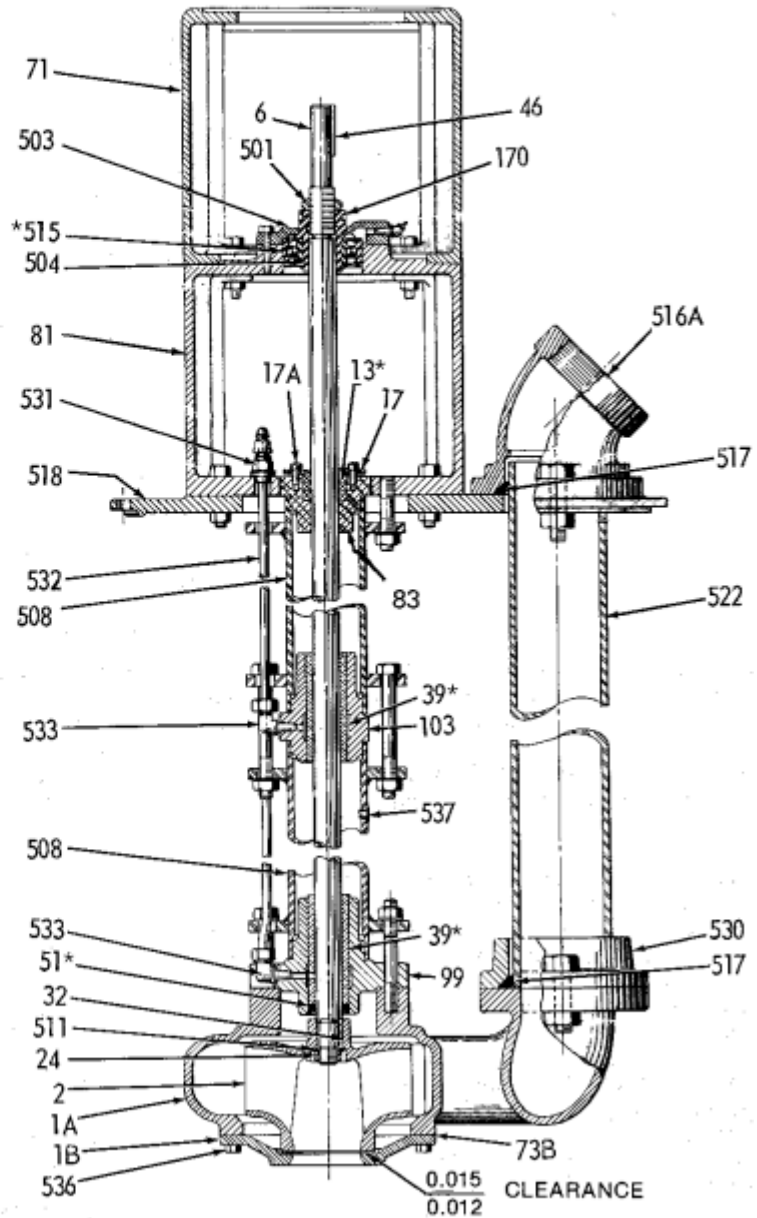
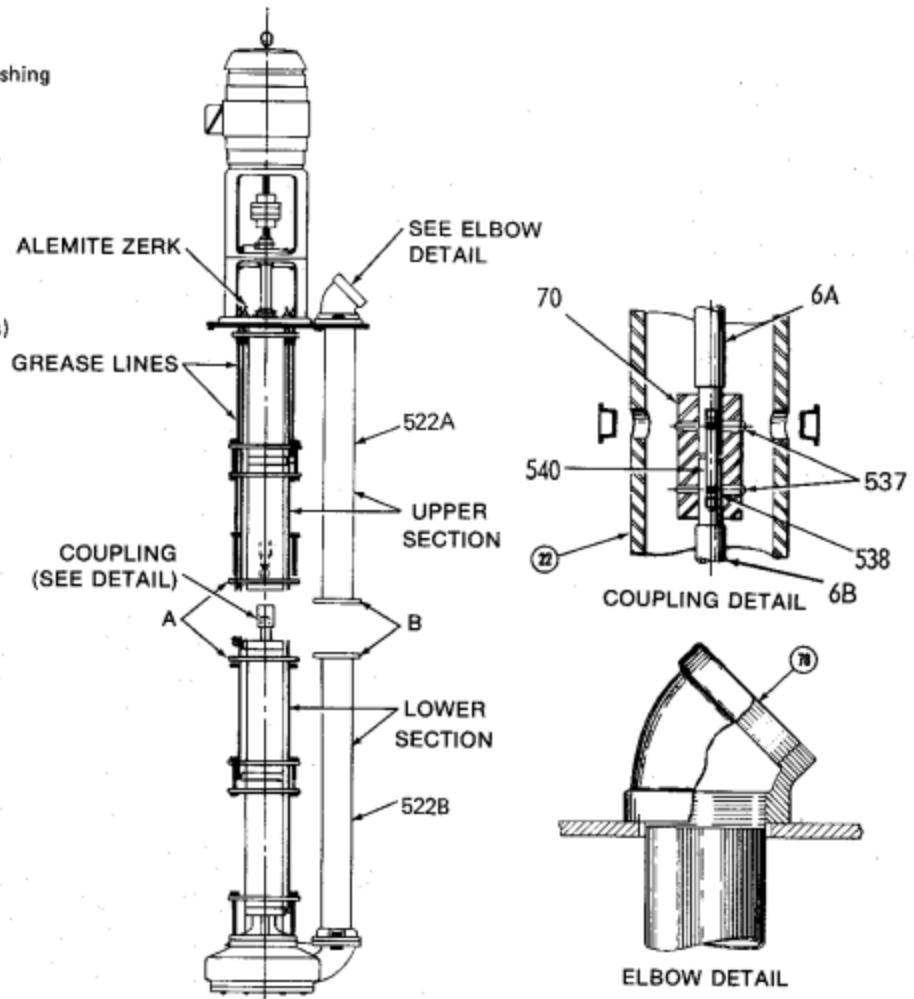
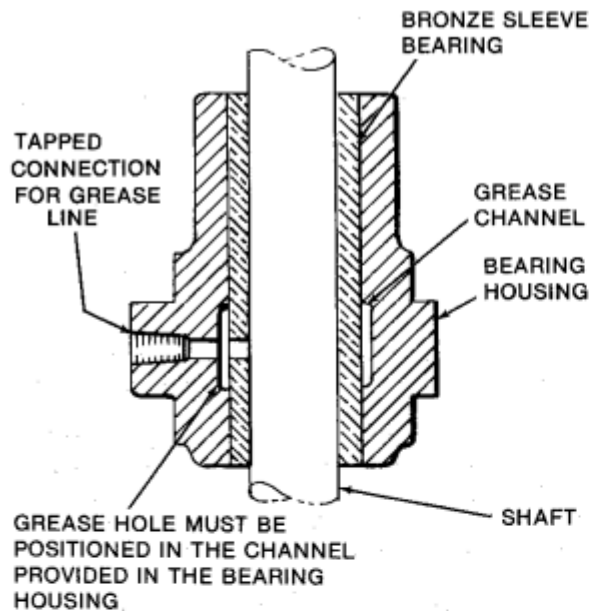

Figure 6. NS and LMB Model Sump Pumps
Figure 7. Two-Section Sump Pump
Figure 8. Installation of Sleeve Bearing for all LM, LL and OM Models
4. Turn the upper shaft (6A) until the small end of the taper pin (537) in the shaft coupling (70) is in line with one of the holes in the hanger pipe.
6. Remove cap screws from the bearing cap (503). Do not disturb setting of lock nut (501) and bearing adapter (170).
7. Raise shaft approximately 4 inches so that the lower end of the upper shaft (6A, figure 7) clears the top of the coupling (70). Block in place with a 4-inch piece of wood between the bottom of the bearing (515) and the bearing pedestal (81) to keep shaft in a raised position.
8. Unbolt the flange connection in the pump discharge line at point B (figure 7), and temporarily secure to the hanger pipe.
9. At hanger pipe A (figure 7), which is the joint closest to the opening left by the removal of the cap-plug plug, remove bolts and nuts joining hanger pipe and intermediate bearing assembly, and remove lower section of pump.
10. Remove lower section of discharge pipe (522A, figure 7) from packing flange (530), by using a pulling twisting motion.
11. To remove upper section of discharge pipe from discharge elbow (516B, figure 7) unscrew with counter-clockwise turns as viewed from point B.
**DISASSEMBLY:** Mark hanger pipe (508), flanges prior to disassembly for grease line (532) locations, and proper hanger pipe location (hanger pipes are usually not the same length).
1. Remove cap screws (536) and suction cover (1B). Block impeller (2) to keep shaft (6) from turning.
2. Remove split packing gland or packing plate (17) and packing set (13).
3. Remove pump coupling half (not shown in pump assembly) and key (46)
4. With 1-1/8-inch open end wrench, remove nut (501) by turning in a counter-clockwise direction as viewed from coupling end.
5. Remove bearing cap (503) by removing screws.
6. With spanner wrench, unscrew bearing adapter (170) with its bearing (515) from its seat in the bearing pedestal by turning in a counter-clockwise direction as viewed from the coupling end.
8. Back impeller screw (24) out from shaft approximately five turns. Place a hard wood block or bronze rod against the impeller screw. Strike the rod with a hammer to jar impeller from shaft. Once impeller is loose, remove screw and impeller. Impeller screw should be used only once as the Nylok plug loses its locking quality.
9. For models NS and LMB pumps (figure 6) withdraw impeller and key after removing nut and washer (24).
10. Remove grease lines (532).
11. To remove discharge casing (1A), remove nuts holding hanger pipe assembly (508), nuts, screws attaching packing flange (530) to the discharge casing.
13. With a pulling twisting motion, remove packing flange from discharge pipe (522).
- Socket Head cap screw (Fig. 6)
- Impeller nut and washer (Fig. 6)
18. To remove sleeve bearings (45, 49) from bearing housing (46), or discharge casing adapter (48) or from lower bearing housing (48, figure 6), remove both cup point set screws (47) (see figure 8). (Set screws are not used in NS and LMB model pumps.) Using a drift, drive bearing from its housing.
3. Align flat on bearing with threaded set screw hole in bearing housing (see figure 8).
1. Press bearing (515) on adapter (170) by applying force ONLY to inner race and install snap ring (504). Be sure ring seats in groove all around.
2. Assemble hanger pipe (508), matching the marks applied during disassembly, together with grease lines (532) and associated parts that may have been removed.
3. If bearing pedestal (81) was removed, locate on floor plate (518) and attach screws and nuts. Tighten securely.
4. Install new O-ring (517) in discharge elbow (516A), locate on floor plate and attach screws and nuts. Tighten securely.
5. If not already done, round both ends of discharge pipe (522) with a file. Apply soap or light oil to both ends of pipe and insert one end in discharge elbow with a twisting push. Slide packing flange (530) and a new O-ring (517) on the other end of discharge pipe.
6. Install discharge casing (1A) being sure that discharge pipe enters counter bore. (Discharge pipe butts against casing for models NS and LMB.) Attach nuts. Slide packing flange (530) against casing and attach screws and nuts. Tighten all securely.
7. Install impeller (2) on shaft (6). Except for NS and LMB models, using a hardwood block or bronze rod, tap the impeller to a firm seat on the shaft. Install lock washer and screw (24) and tighten securely. For NS and LMB models install washer and nut (24, figure 6) and tighten securely.